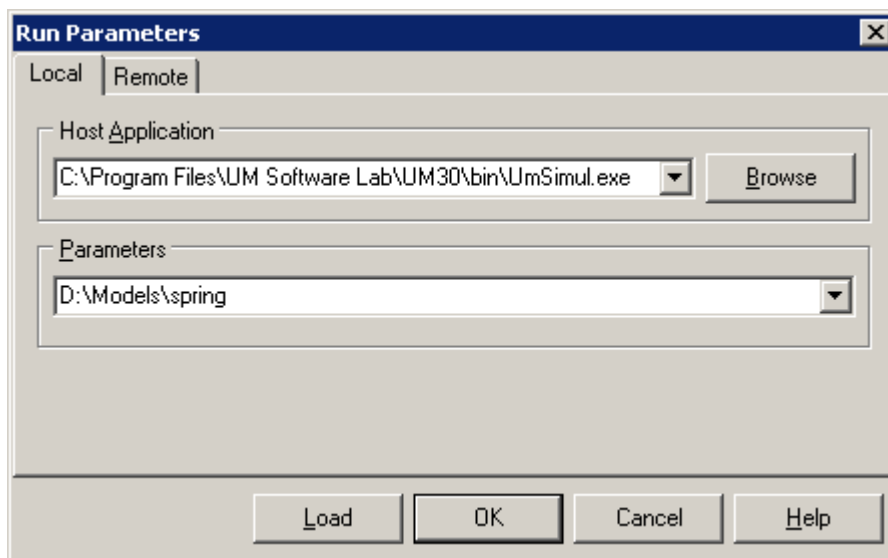

Figure 5.9.
- Input path to model directory (*..\[ModelName]*) in the **Parameters** field. It leads that simulation module loads the model right after start (see Figure 5.9).